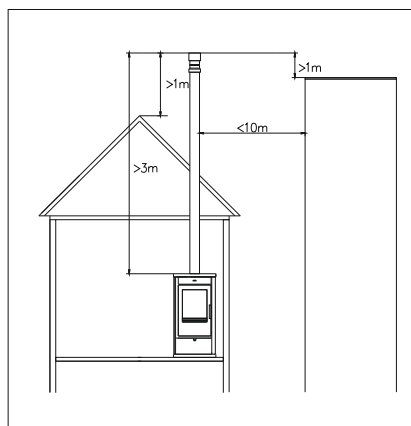

Figure 1
- The chimney should be high enough, compared with the roof and nearby buildings (figure 1). The flue draught should be higher than 10 Pa and for stoves with integral water boiler up to 15 Pa. If the chimney is very high (the draught exceeding 35 Pa) then it is necessary to install a supplementary valve to reduce the draught.